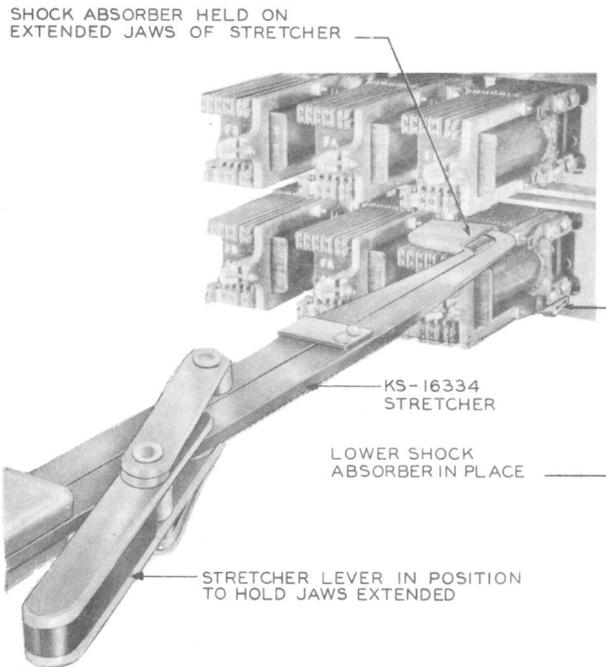
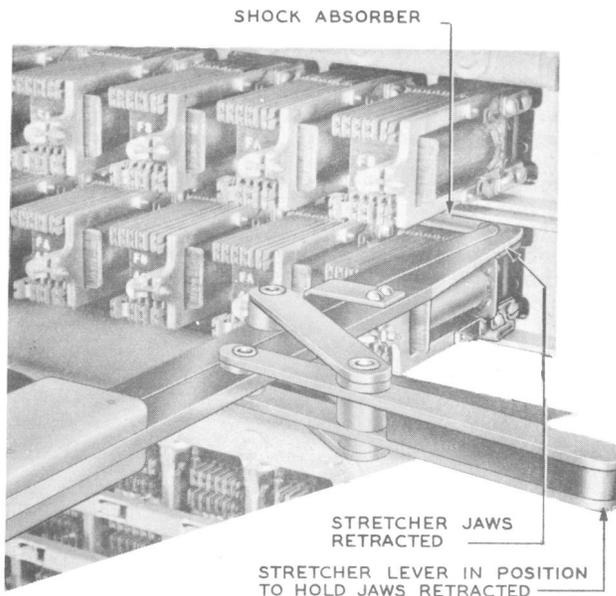

Fig. 2 - Inserting Shock Absorber Between Top of Relay and Mounting Plate Flange
Fig. 3 - Shock Absorber Inserted Between Top of Relay and Mounting Plate Flange - Stretcher About To Be Removed
4.04 Placing Shock Absorber on KS-16334 Stretcher: Retract the jaws of the stretcher by moving the stretcher lever to a position at right angles to the handle. Fig. 3 shows the lever in this position. Slip the shock absorber over the jaws of the stretcher as far as possible. Then pull the stretcher lever toward the handle until it locks in position with the stretcher jaws fully extended.
4.05 Inserting Shock Absorbers Between Relay and Mounting Plate Flanges: With the shock absorber placed on the stretcher as covered in 4.04, hold the stretcher with the stretcher lever at the right. Starting with the relay at the left end of the mounting plate, insert the shock absorber between the bottom of the relay and the lower flange of the mounting plate. In doing this tilt the stretcher downward slightly to clear the relay, and push the stretcher toward the mounting plate until the shock absorber is against the inner surface of the mounting plate between the flange and the bottom of the relay. A shock absorber about to be inserted between the top of the relay and the upper flange of the mounting plate at the right end of the mounting plate is shown in Fig. 2, since a better view of the operation is obtained in this position. Fig. 3 shows this shock absorber fully inserted above the relay.
4.06 Withdrawing Stretcher: While exerting pressure on the stretcher toward the mounting plate, withdraw the stretcher as follows. Retract the stretcher jaws by moving the lever to a position at right angles to the handle as shown in Fig. 3. Slowly and carefully swing the handle of the stretcher from side to side with the